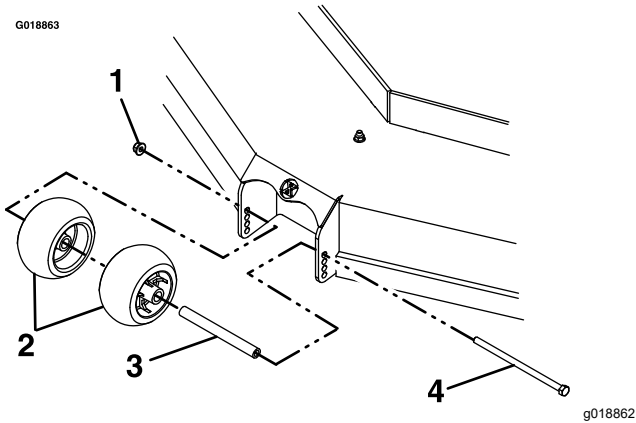

Figure 29
4. After adjusting the height of cut, adjust the anti-scalp rollers by removing the mounting hardware (Figure 29).
6. Torque the locknut (3/8 inch) to 41 to 47 N·m (30 to 35 ft·lb) as shown in Figure 29.